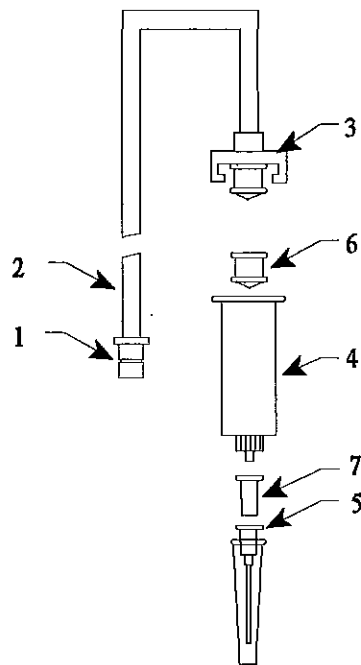

Figure 3
## DISPOSABLE *(see Figure 3)*
3. Dislodge both (2) fuses and replace with same type as described in specifications section of this manual.
***Disposable:*** (see Figure 3)